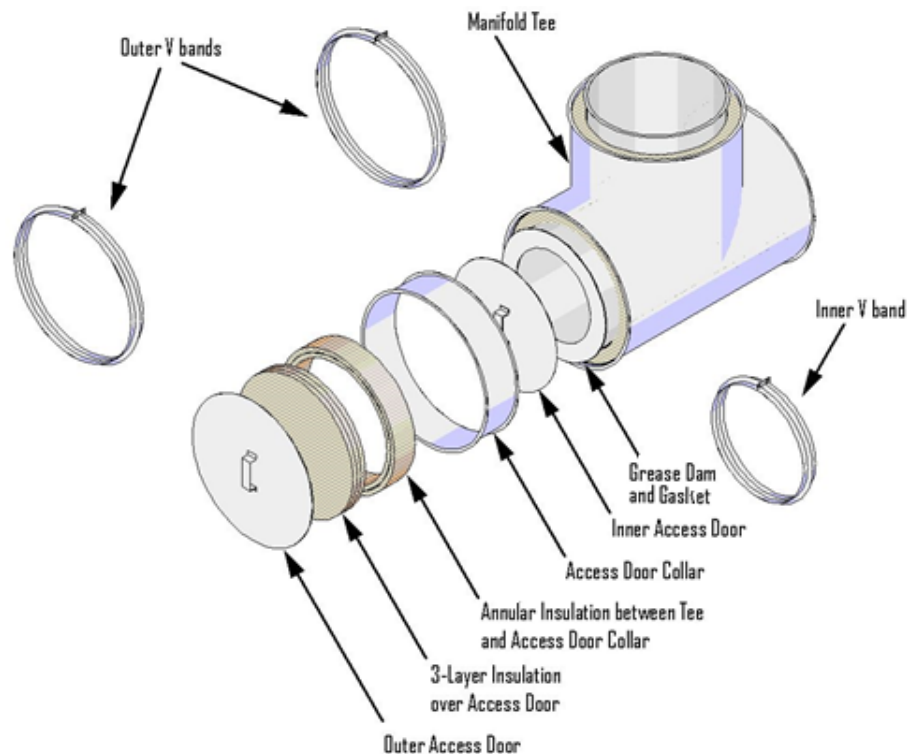

Figure 2. Access Door Assembly
- B. ACCESS DOOR – When required, use the duct manufacturer's manifold tee and access door (tee cap) assembly (see Figure 2). Apply a 1/4 in. continuous bead of sealant (Item 2A) to the inner flange of the tee on the side where access door is to be located. Center the supplied grease dam over the opening of the tee. Verify that grease dam is sealed to the tee flange by applying pressure. Remove excess sealant (Item 2A). Apply supplied Garlock Blue-Gard® 3000 gasket to grease dam with a 1/4-in. continuous bead of sealant (Item 2A) applied to the grease dam 1 in. from